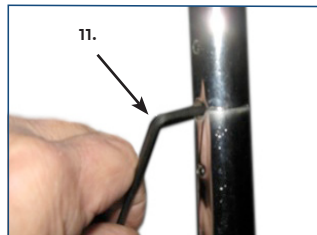

figure 11
11. Tighten the allen set screw with the allen wrench provided with the hardware pack. (figure 11)